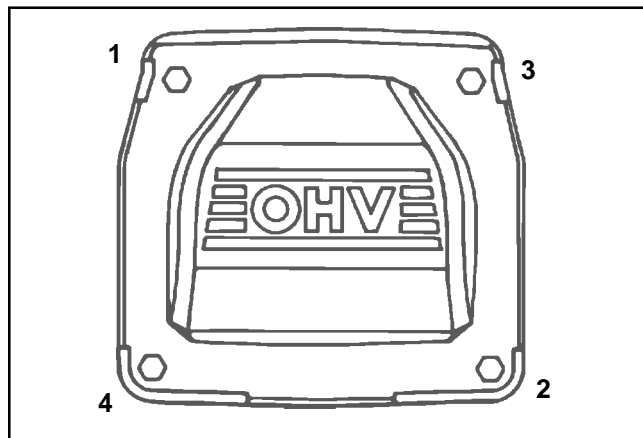

Figure 11-85. Valve Cover Fastener Torque Sequence.
5. Torque the valve cover fasteners to the proper specification using the sequence shown in Figure 11-85.